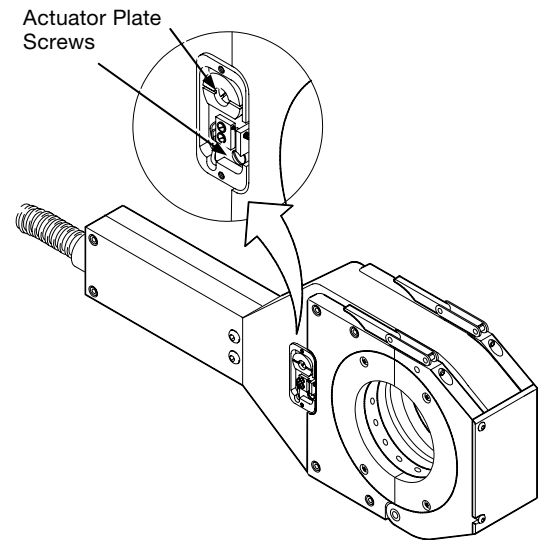

Figure 19 Adjusting the Home Sensor
1. Remove the actuator cover. See Figure 19.